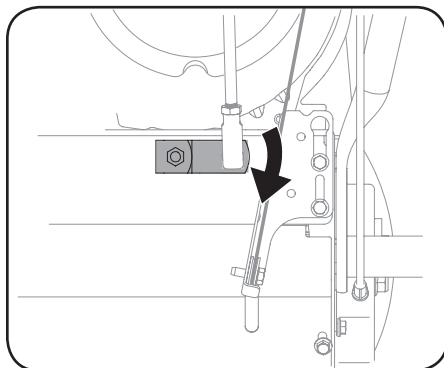

Figure 4-8
3. Pivot shift bracket downward to take up slack in cable. See Figure 4-8.